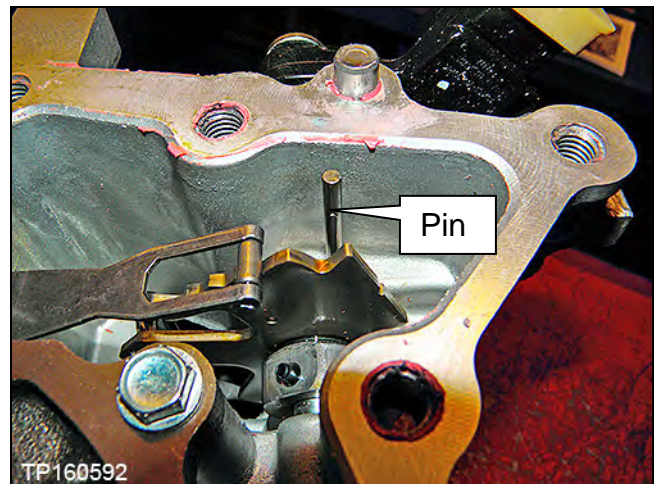

Figure 15I
14. Confirm the pin (Figure 15I) is located in the CVT case prior to installation of the converter housing.